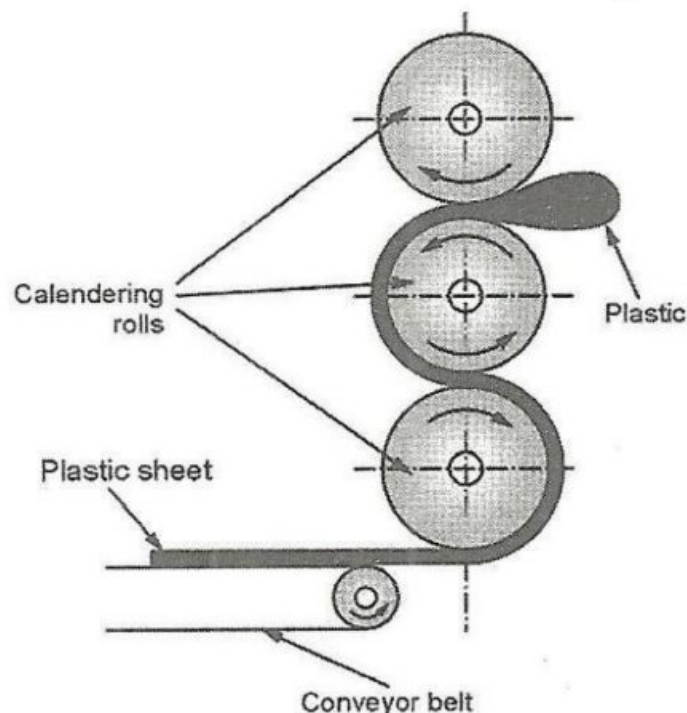

Figure 5.12. Calendering process
- The main difference between rolling and calendering is that, in calendering there is appreciable thickening after the material has reached minimum thickness at the roll gap and the pre-calendered material is not in the sheet form. Refer figure 5.12.